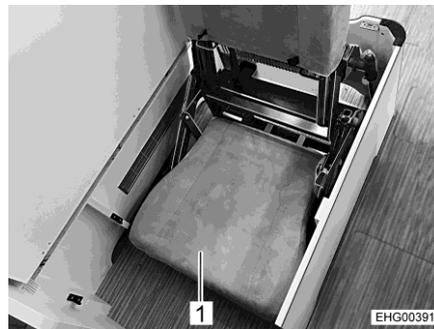

Fig. 22 Seat, lowered
- Grasp the seat (Fig. 22,1) at the front and back and swing it forward and upwards in one go.